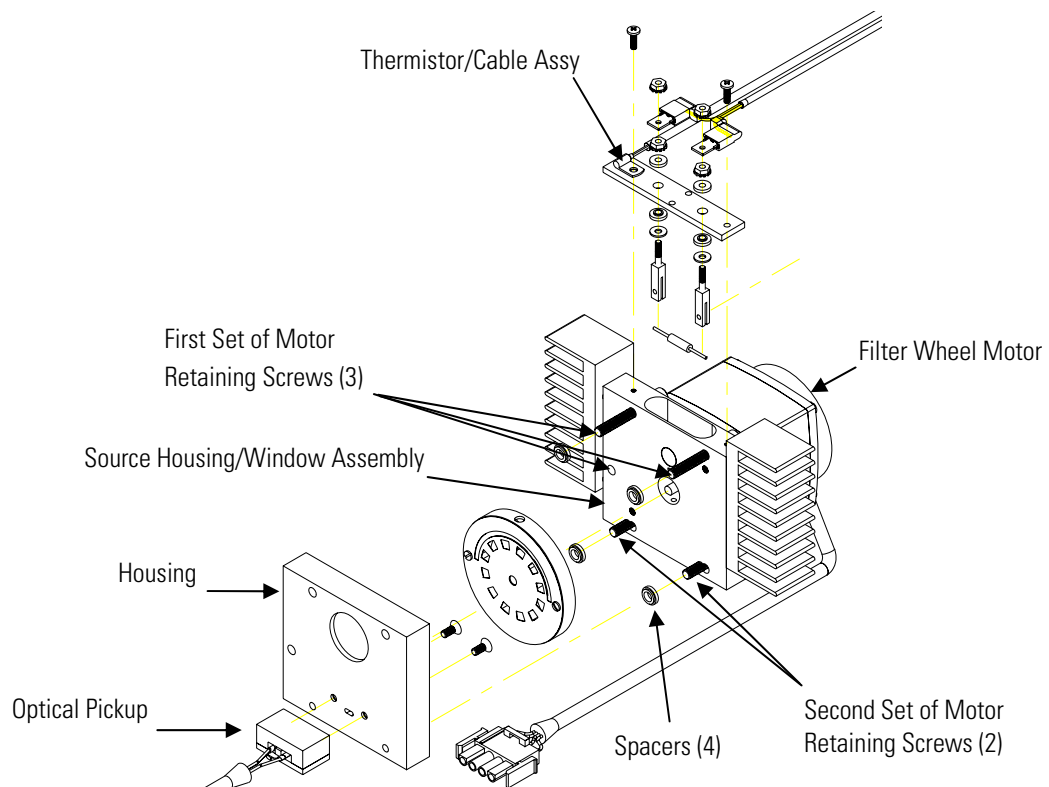

Figure 7–8. Replacing the Filter Wheel Motor
Equipment Damage Some internal components can be damaged by small amounts of static electricity. A properly grounded antistatic wrist strap must be worn while handling any internal component (Figure 7–1). If an antistatic wrist strap is not available, be sure to touch the instrument chassis before touching any internal components. When the instrument is unplugged, the chassis is not at earth ground. ▲
3. Remove the three motor retaining screws securing the filter wheel motor and wheel assembly to the optical bench (Figure 7–8). Be sure to keep the two spacers for these screws and note their location for reinstallation. Remove the motor and wheel assembly from the measurement case.
4. Remove the two remaining motor retaining screws to remove the housing. Keep the spacers for these and note their location (Figure 7–8).
6. Separate the filter wheel motor from the source housing/window assembly by removing the two slotted fillister head screws that secure the motor to the source housing/window assembly (Figure 7–8).
Use the following procedure to replace the filter wheel assembly. Refer to Figure 7–8.